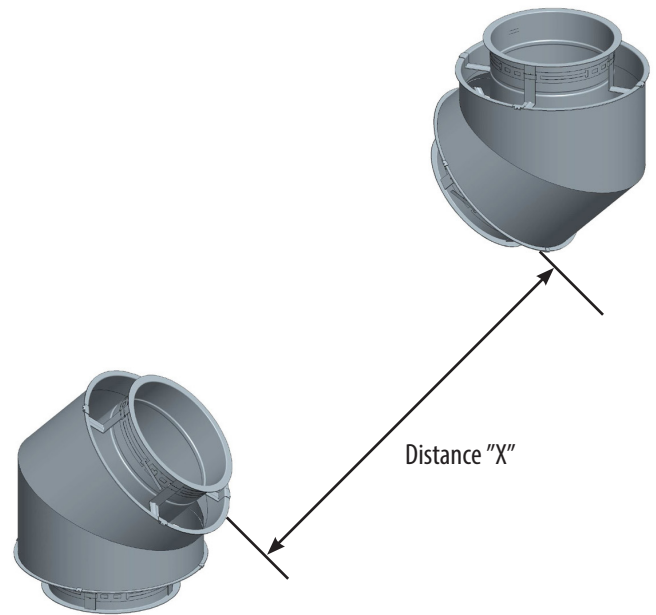

Figure 34-Step 1 for Installation of Variable length
Step 1 - Measure the distance X required for the variable length. See Figure 34.